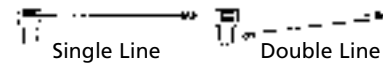

Figure 1
\*\* All loads shown are for single-line operation (see Figure 1). Double-line operation with optional pulley block (P/N 2227) approximately doubles capacity of winch (see Figure 1).
1. The X2 winch is rated at 3,000 lbs. (single-line) capacity. **DO NOT OVERLOAD. DO NOT ATTEMPT PROLONGED PULLS AT HEAVY LOADS. DO NOT MAINTAIN POWER TO THE WINCH IF THE MOTOR STALLS.** Overloads can damage the winch and/or the wire rope and create unsafe operating conditions. **FOR HEAVY LOADS, WE RECOMMEND THE USE OF THE OPTIONAL PULLEY BLOCK AND HOOK ASSEMBLY (PART NO. 2227) TO DOUBLE-LINE THE WIRE ROPE** (Figure 1). This reduces the load on the winch and the strain on the wire rope by approximately 50%.